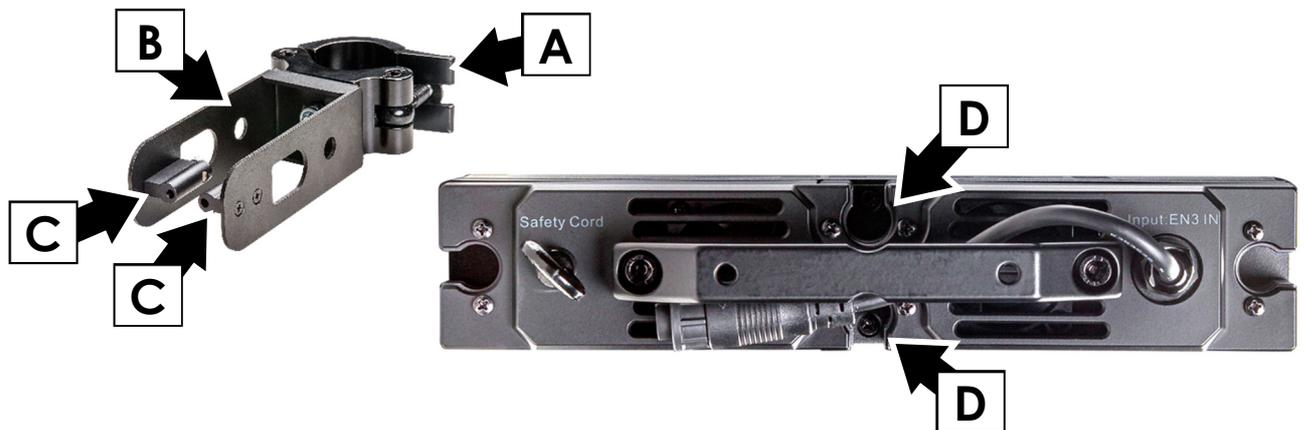

Figure 22. Connection channels and KNV Line Bracket
1. See Figure 22. Bolt a half-coupler type rigging clamp **A** to the KNV Line Bracket **B** using a suitable hardened steel bolt and a new self-locking nut.